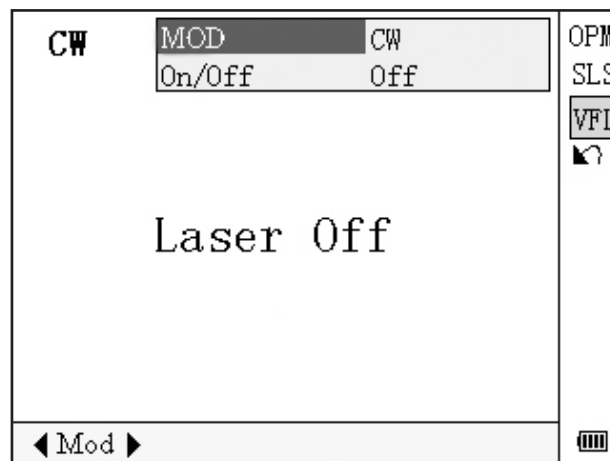

Figure 4-15. Visible Fault Locator Setting
2. Use ◀ and ▶ to toggle between VFL working modes. Press **Enter** to enter VFL setting interface (Figure 4-15).